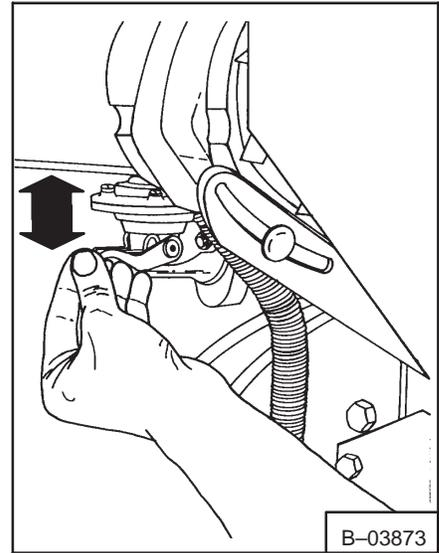

**Fig. 1-24** Fuel Filter Bolt
3. Loosen the bolt (Fig. 1-24, Item 1) on the top of the final fuel filter.
- Final fuel filter bolt (Fig. 1-24, Item 1).